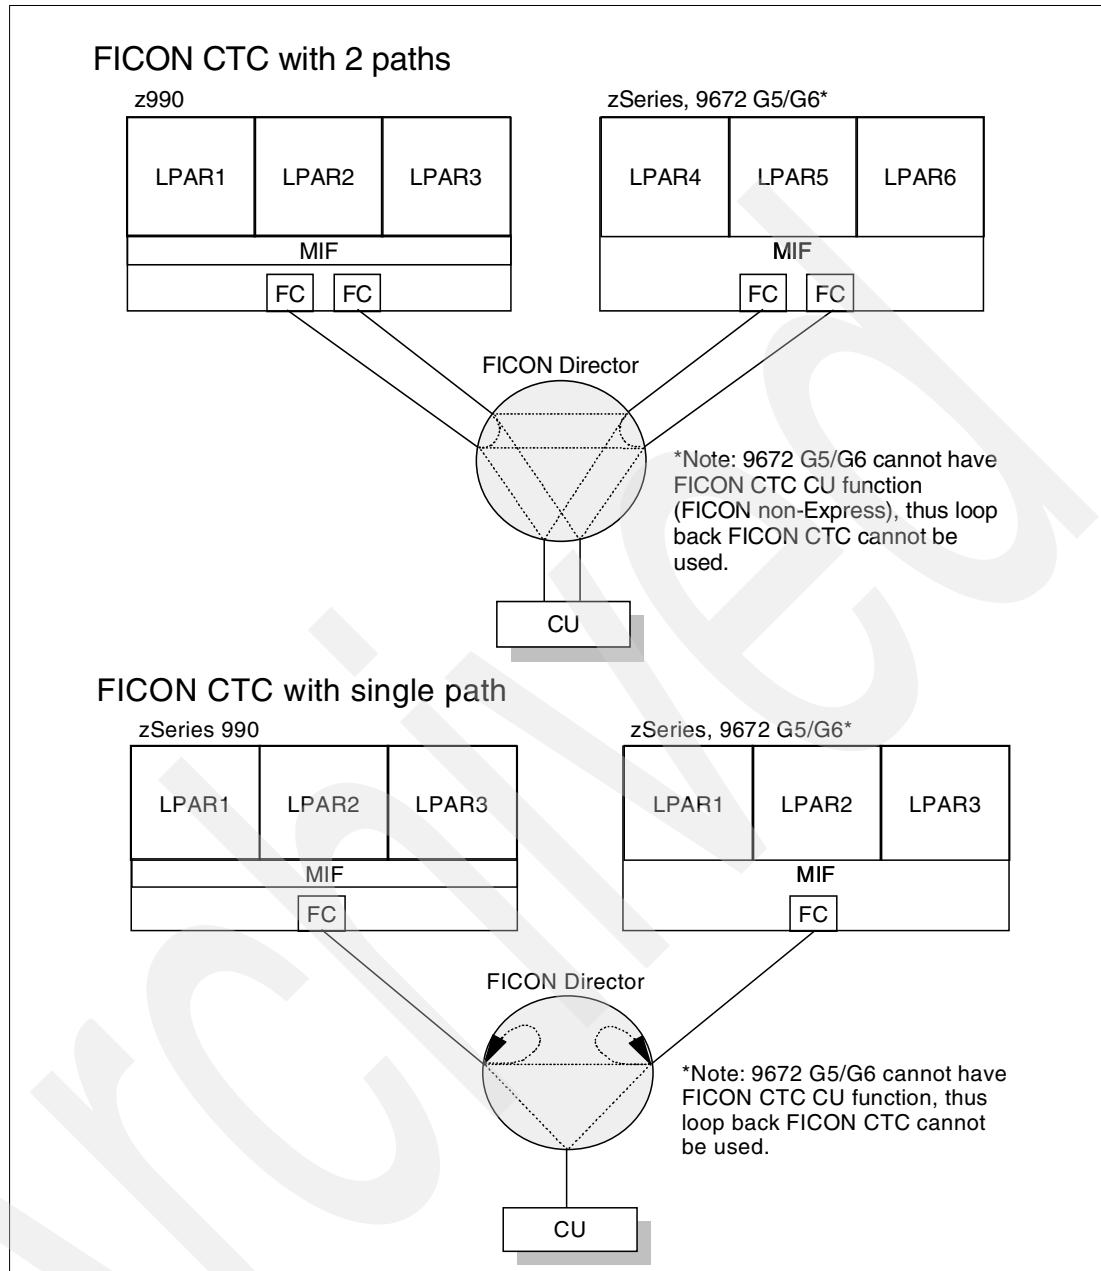

Figure 3-10 FICON CTC links in director
- ▶ Any two LPARs, in the same system, can establish a FICON CTC connection using only a single FICON channel. This single channel *must* be connected to a FICON Director. This is illustrated in the bottom of Figure 3-10 on page 54.
In the upper part of Figure 3-10, two FICON native (FC) channels in z990 are shared among LPAR1, LPAR2, and LPAR3, and communicate with LPAR4, LPAR5, and LPAR6 on another processor. The same FICON channels can also communicate with I/O devices (CUs) attached to the Director.
The bottom half of Figure 3-10 illustrates that a single FICON channel can be looped in a director, to form a CTC link between two LPARs in the same system. For communication between any two of the LPARs in the z990, both FICON channels are used to form a CTC loopback in the FICON Director. The same channel can also communicate with other systems or control units.